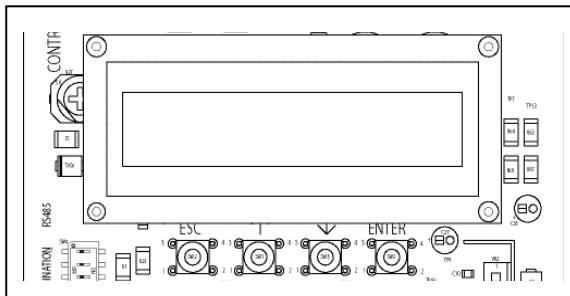

FIGURE 3. ESC, ↑ (UP), ↓ (DOWN) , AND ENTER KEY DETAIL
12. Set the HTx104 **POWER ON/OFF** switch to ON, and immediately depress both the **ENTER** and **ESCAPE** keys within the first 10 seconds to enter the initialization menu as shown in Figures 3 and 4.